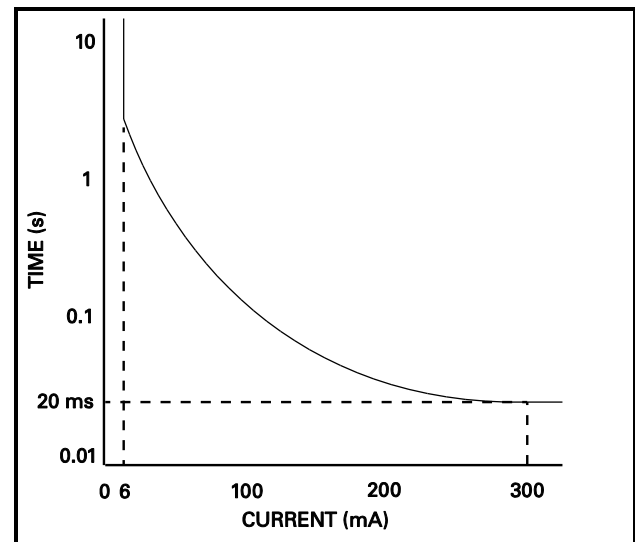
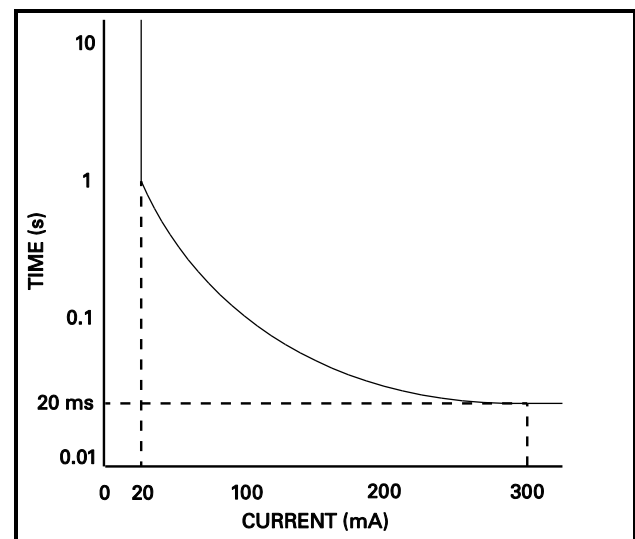

FIGURE 21. Class-A GFCI Curve.
FIGURE 22. Class-C and -D SPGFIC Curve.
Fig. 21 shows the Class-A GFCI maximum-trip-time-versus-current curve defined by UL 943 (with the above formula); UL 943 also defines a limit to the formula, with a minimum required trip time (or fastest trip speed) of 20 ms, which occurs at about 300 mA of ground-fault current (I) per the formula. Class C and D SPGFICs must operate within this same curve, except that their operating threshold is 15 to 20 mA (non-adjustable). See Fig. 22. The SB5000 EGFPDs described in this manual also operate within the Class-A formula, but have a 6- to 100-mA threshold setting range.